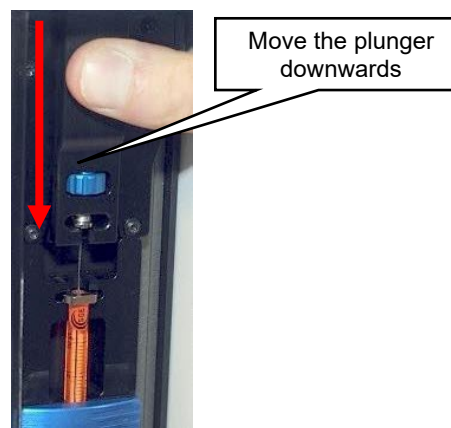

Figure 65: Null Plunger Position
6. Carefully move the plunger down in the syringe until the tip reaches the bottom of the syringe. This position is called **Plunger Null Position** in the software. See Figure 65.